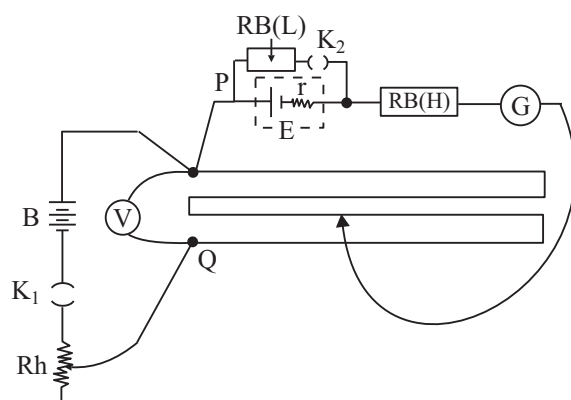

Fig. 23.3: Circuit diagram of a potentiometer.
- (vi) In the circuit arrangement shown in Fig. 23.3 if l_1 is the length of the potentiometer wire between the terminal P and the null point when the cell is in open circuit then
- (i) Clean the ends of the connecting wires with the sand paper and make tight connections as per the circuit diagram shown in Fig. 23.3.